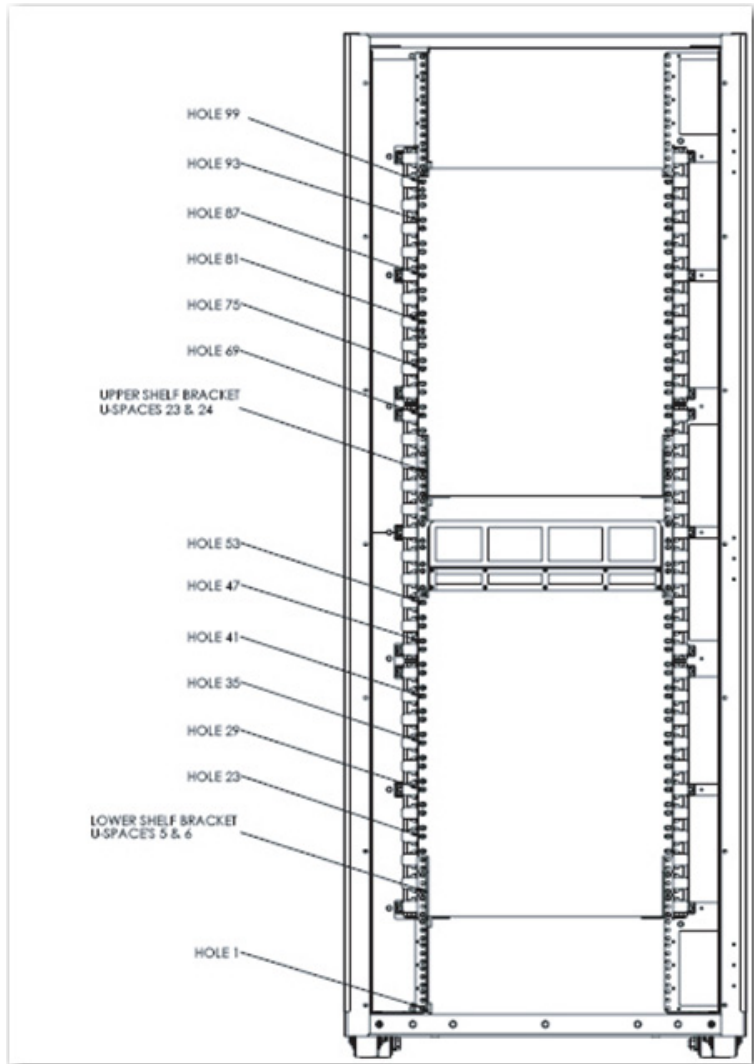
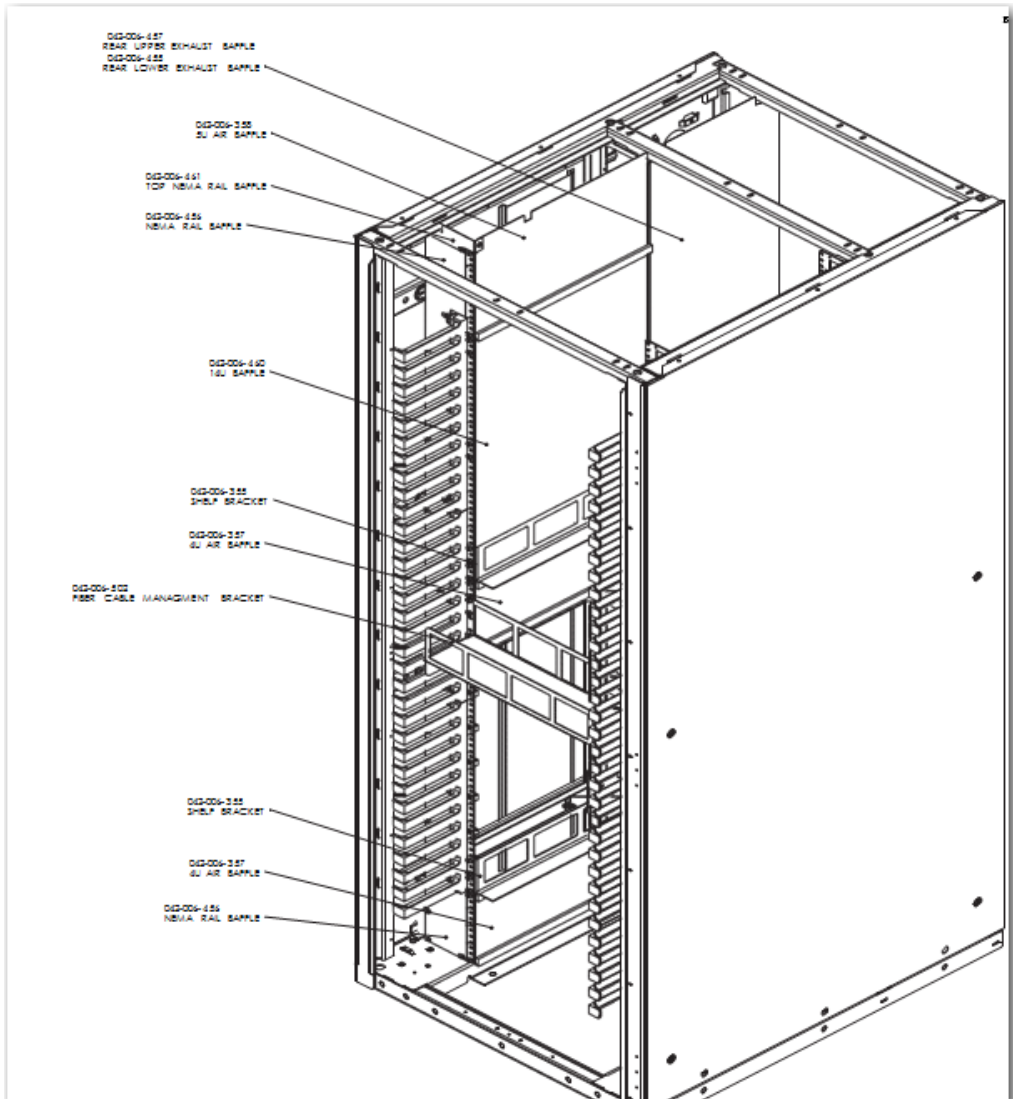
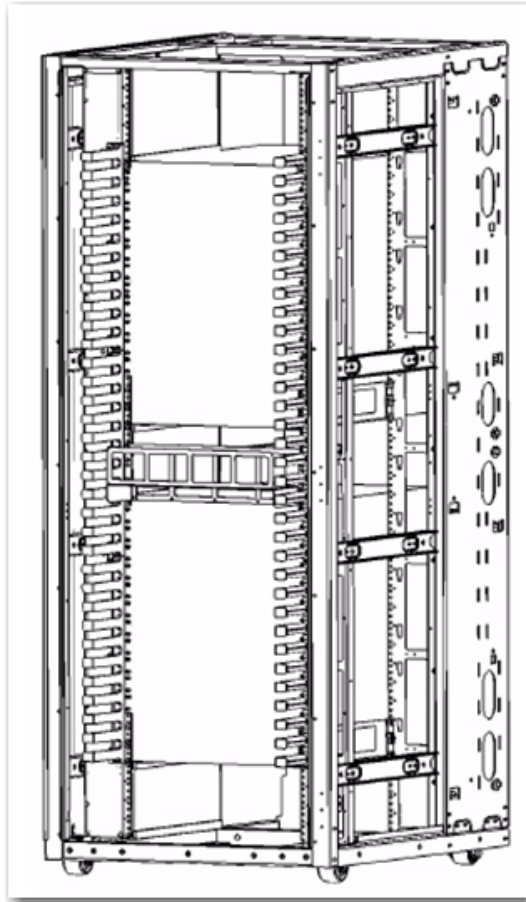

Figure 53 EC-1700 cabinet showing U hole locations
Figure 54 EC-1700 cabinet isometric view
Figure 55 MDS 9513/9509 front view
- ◆ The director will be placed upon the lower shelf-brackets as can be seen in Figure 54 on page 77 (the EC-1700 cabinet isometric view) and Figure 55 on page 78, which shows an MDS 9513/MDS 9509 installed in the lower EC-1700 cabinet position.
After following the Cisco procedures for unpacking, handling and mounting the MDS director onto these lower shelf brackets, secure the MDS director to the front vertical NEMA rails by using the screws provided with the Cisco accessory kit that came with the MDS director. Attach these screws to the clip nuts that are pre-mounted on the front vertical NEMA rails. See Figure 53 on page 76 (EC-1700 cabinet showing U hole location) and Figure 54 on page 77 (EC-1700 cabinet isometric view) for the clip nut locations if you need to readjust any of the clip nuts.
Take 6 clip nuts from this 14 U baffle and place them on the left hand vertical mounting rail in the positions identified in Figure 53 on page 76 (EC-1700 cabinet showing U hole location) and Figure 54 on page 77, the EC-1700 cabinet isometric view.
Use the same clip nuts that held this shelf-bracket in its upper right storage location and move them, and the shelf-bracket, to the left side vertical mounting rails just above the middle baffle. See Figure 49, “Upper left shelf bracket and clip nuts” (above), and Figure 53 on page 76 (EC-1700 cabinet showing U hole location) for the proper location of the left hand shelf bracket when moving it.
Figure 53 on page 76 shows the EC-1700 cabinet U hole locations.
Figure 54 shows the EC-1700 cabinet isometric view.
Figure 55 shows the front view of the MDS 9513/9509.